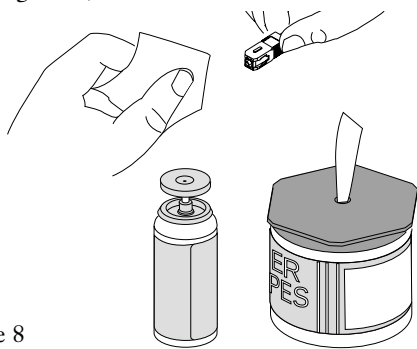

Figure 8
- Use a Corning Fiber Wipe soaked with Corning Fiber Optic Cleaning Fluid to wipe the connector end faces (Figure 8).